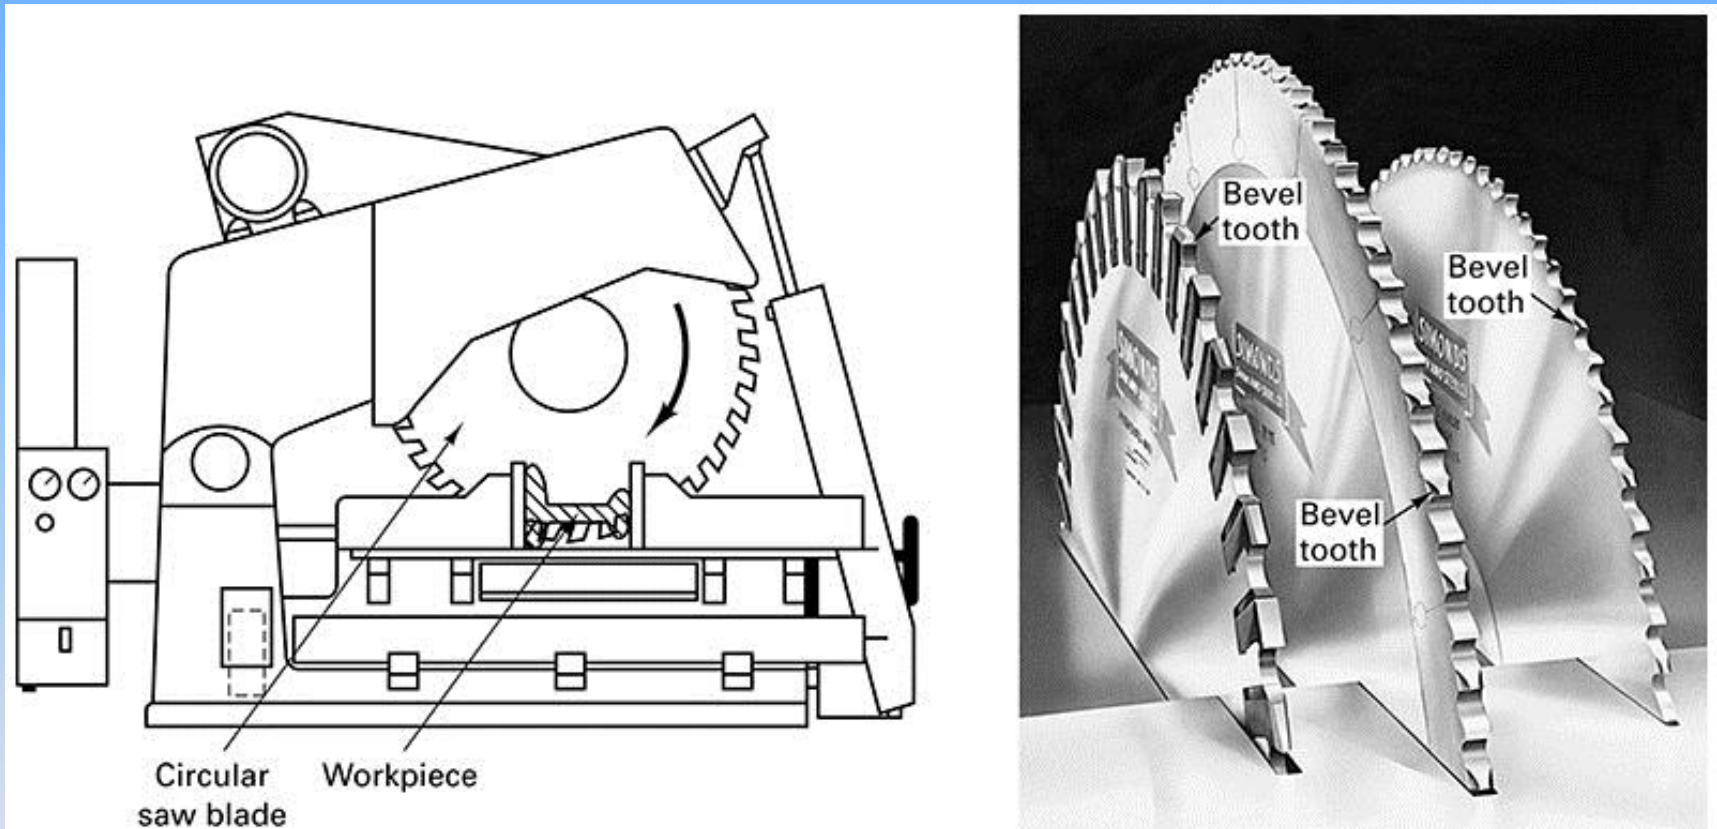

FIGURE 27-14 Circular sawing a structural shape, using (*left to right*) an insert tooth, a segmental tooth, and an integral-tooth circular saw blade.
- **3. Circular saw (Figure 27-14)**